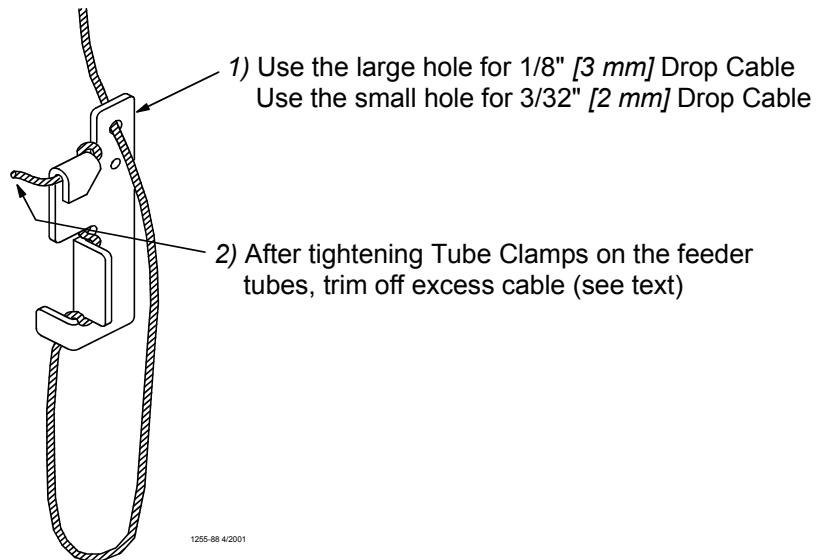

Figure 31. Cable Lock Threading
6. Install Adjustment Leveler within 6" [152 mm] of feeder line. **Figure 31.** shows the proper cable routing around the Adjustment Leveler.
Finally, tighten the Tube Clamps on the feeder tubes. Clamp the joints securely, but do not crush the tubes. Re-adjust all Adjustment Levelers as needed and trim off excess cable as shown in **Figure 31.**